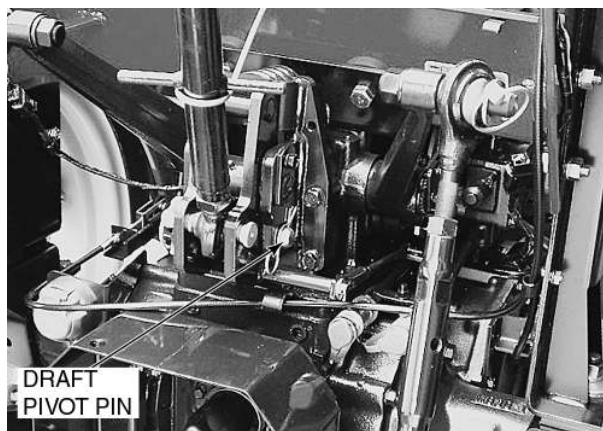

Figure 36 - Hydraulic Lift Rocker
The hydraulic lift rocker, Figure 36, has two holes for attaching the upper link, Attach the link in the lower hole for light draft loads (cultivating) and in the top hole for heavier draft loads (plowing) shown.
**NOTE :** Fix the draft-arm with pin, Figure 36, when operating equipment without draft control.